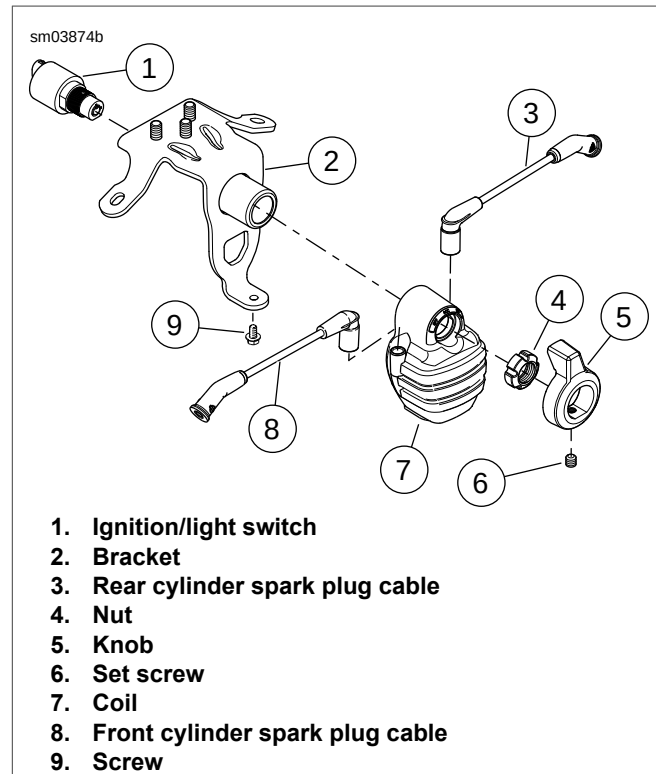

Figure 7-76. Ignition/Light Switch: FXS/B
3. See Figure 7-76. Remove spark plug cables (3, 8) from coil.
4. Loosen set screw (6) and remove knob (5).
5. Remove nut (4) using IGNITION SWITCH SPANNER WRENCH (Part No. HD-48904).
6. Remove screw (9).
1. See Figure 7-76. Attach connector [83] to backside of coil.
2. Position coil on bracket and install screw (9). Tighten screw to 96-120 **in-lbs** (10.9-13.6 Nm).
3. Clean threads of nut (4). Install LOCTITE 243 MEDIUM STRENGTH THREADLOCKER AND SEALANT (blue).
4. Install nut (4) using IGNITION SWITCH SPANNER WRENCH (Part No. HD-48904). Tighten nut to 140-160 **in-lbs** (15.8-18.1 Nm).
5. Install knob (5) and tighten set screw (6).